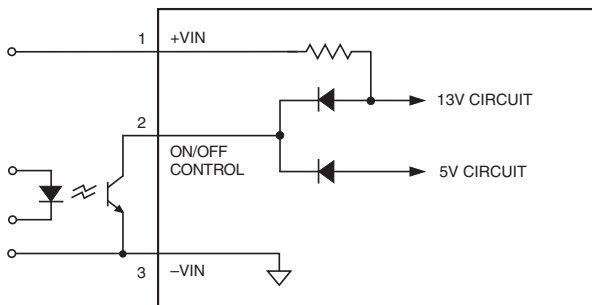

Figure 8. Driving the Positive Logic On/Off Control Pin
**"P" suffix:** Standard models are equipped with Positive-logic and these devices are enabled when pin 2 is left open (or is pulled high, applying +3.5V to +13 with respect to -Input, pin 1) as per Figure 8. Positive-logic devices are disabled when pin 2 is pulled low (0 to 0.8V with respect to -Input).